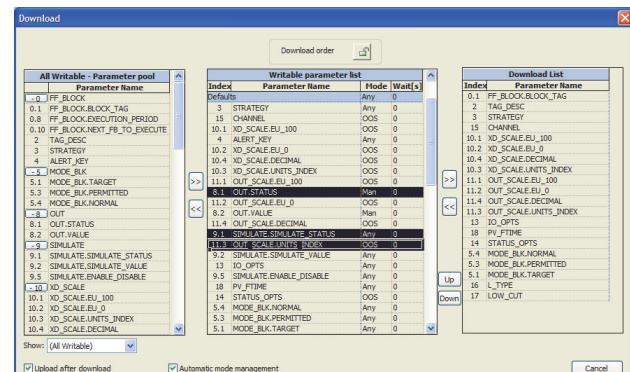

Figure 8. Specifying Parameters for Download
- ▶ Choice of device block parameters to be downloaded when the device is attached to the segment and tagged (Figure 8).